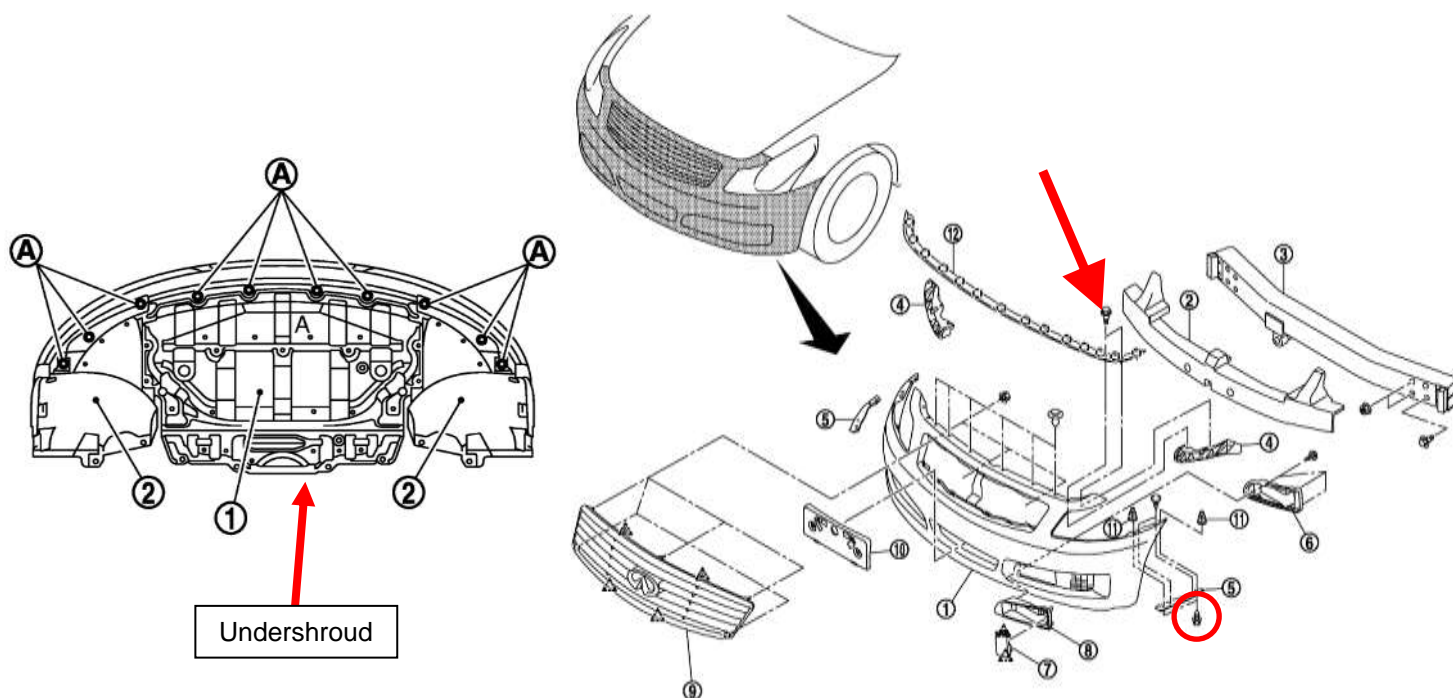
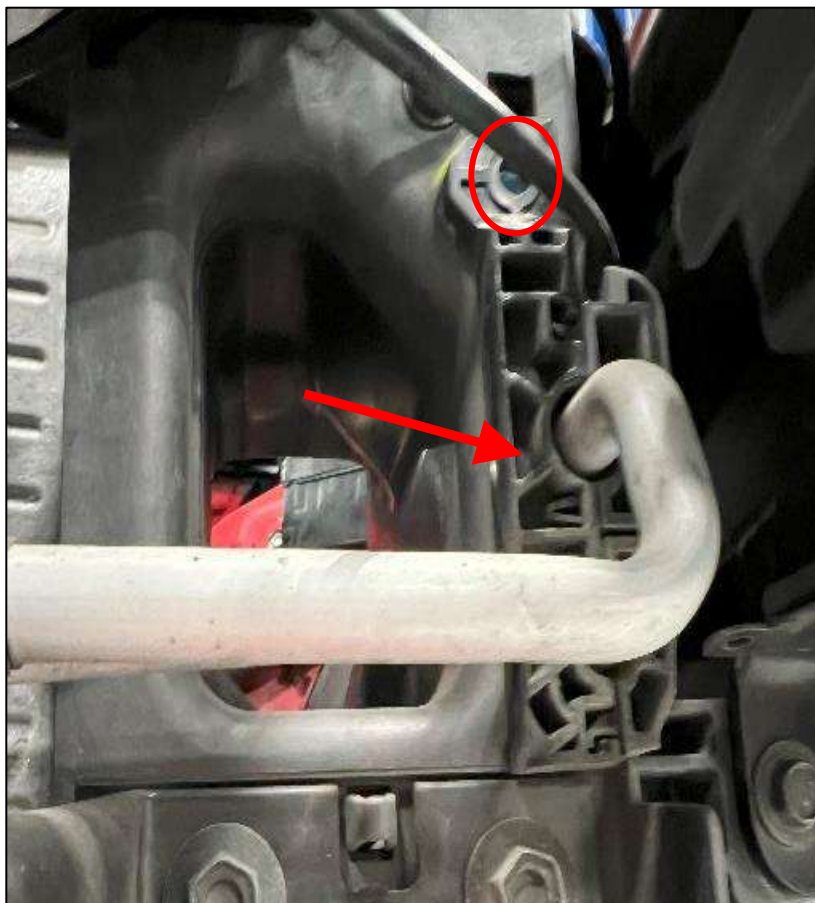

Figure 4
Figure 5
G37 Owners: Use *Figure 4* below as reference for Steps 25-33. 370Z Owners can skip to *Step 34*.
26. Remove plastic clips and the front wheel/fender liners to reveal (2) two mounting screws at each side of the vehicle which mounts corner of the Bumper Fascia to the fender (screw circled in *Figure 4* above). Remove mounting screws on each side.
27. Lift up on the hood seals at the front corner of the engine bay to reveal (2) two mounting screws at each side of the vehicle that mounts the upper corner of Bumper Fascia to the fender (screw shown with arrow above). Remove mounting screws on each side.
28. Remove (6) six plastic pop clips securing the Upper Bumper Fascia to the vehicle at the radiator core support.
32. Remove (4) four bolts and (4) four hex nuts securing the Front Crash Bar to the chassis, retain the hardware as it will be reused. Remove Crash Bar.
33. On the driver side of the Core Support, remove the 10mm bolt (circled below in *Figure 5*). Using a flat head screwdriver, open and remove the plastic clamp/support around the AC lines.